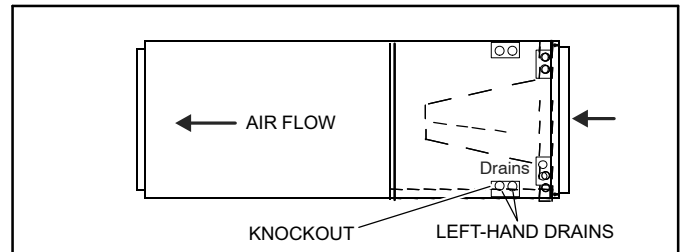

Figure 2. Left-Hand Discharge Configuration
- 4 - A typical horizontal configuration is shown in figure 2.